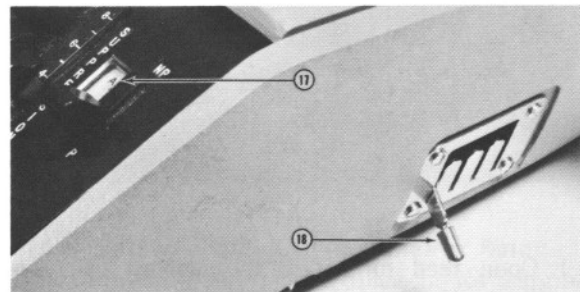

Figure 15
The horizontal spacing lever (18) is easily lifted and lowered into each of the four slots. The selected spacing appears in indicator window (17). Figures 15 and 16 show lever and window for “A” and “D” horizontal spacings.